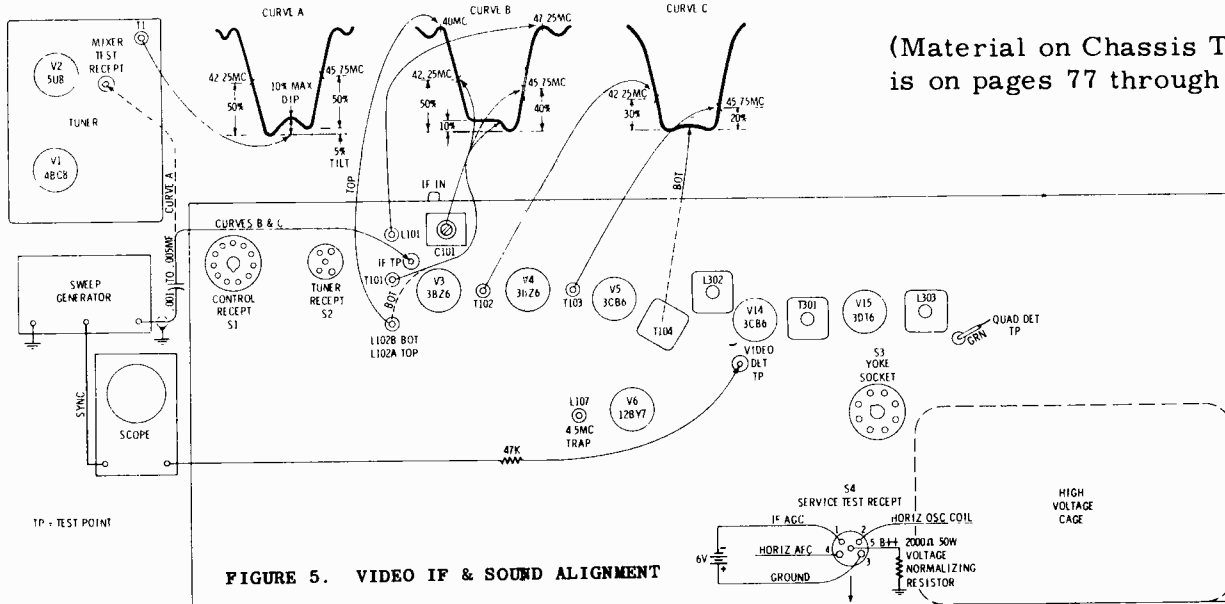

FIGURE 5. VIDEO IF & SOUND ALIGNMENT
6. Refer to Video IF & Mixer Alignment Detail for component and test point location (Figure 5).
3. Refer to Video IF & Mixer Alignment Detail for coil and test point locations (Figure 5).